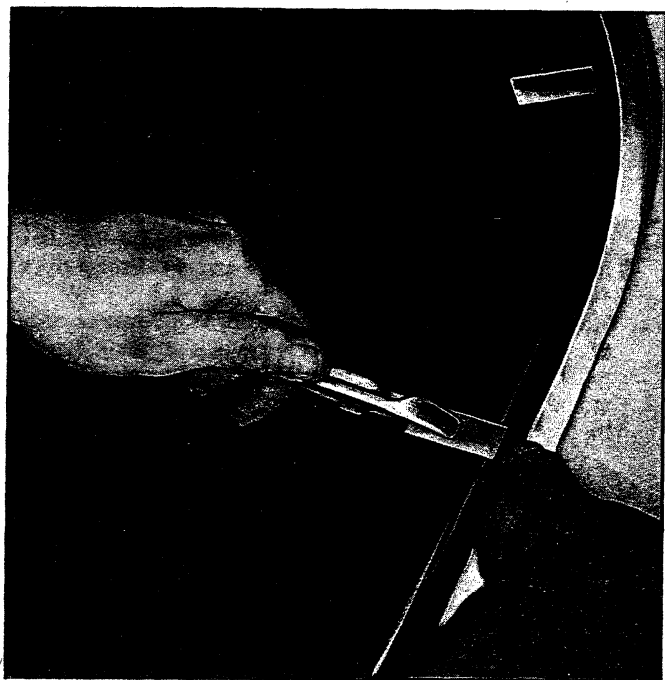

Fig. 93—Removing Feeler Stock
12. Install garnish and reveal moldings in reverse order of removal. Note that upper reveal molding flanges must pass between retainer and feeler stock. Feeler stock is removed as molding is installed as shown in Figure 93.